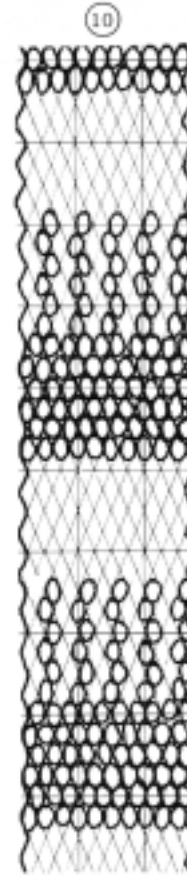

Figure 7c.
A diamond grid is suitable for diagramming the pattern of this weave. The border is usually omitted from this type of pattern diagram. The first pattern shown is a very simple pre-Columbian one (figures 7a and d). The replica shown in figure 7c was woven in natural (L) and brown (D), with a rust (M) border.